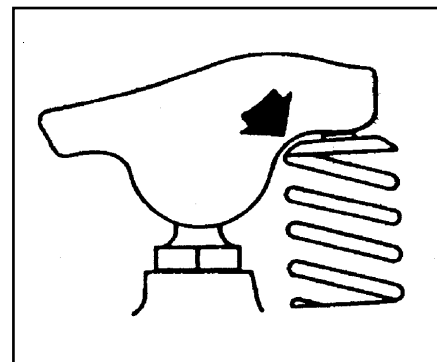

Figure 3
4. Check to insure that you have at least .040" clearance between the underside of the rocker arm and v a l v e spring/retainer combination. (See Figure 3.) This clearance is normally the least when the valve is closed, but you should check it